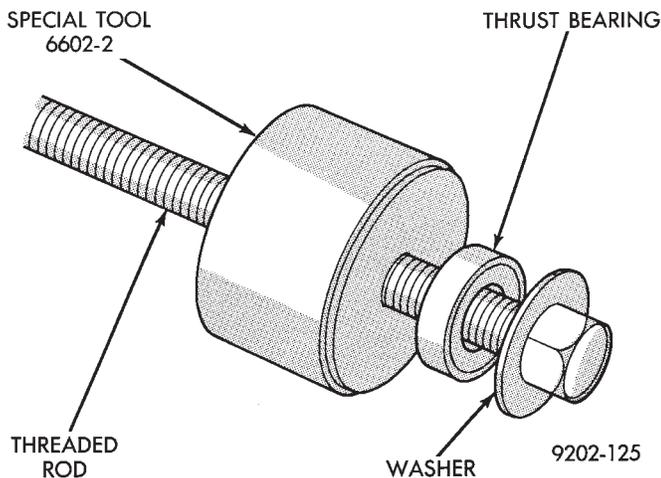

Fig. 9 Bushing Installer Tools
(2) On the threaded rod from Remover/Installer, Special Tool 6602 assemble the following pieces. Washer, thrust bearing, Cup Special Tool 6602-2 (Fig. 9).